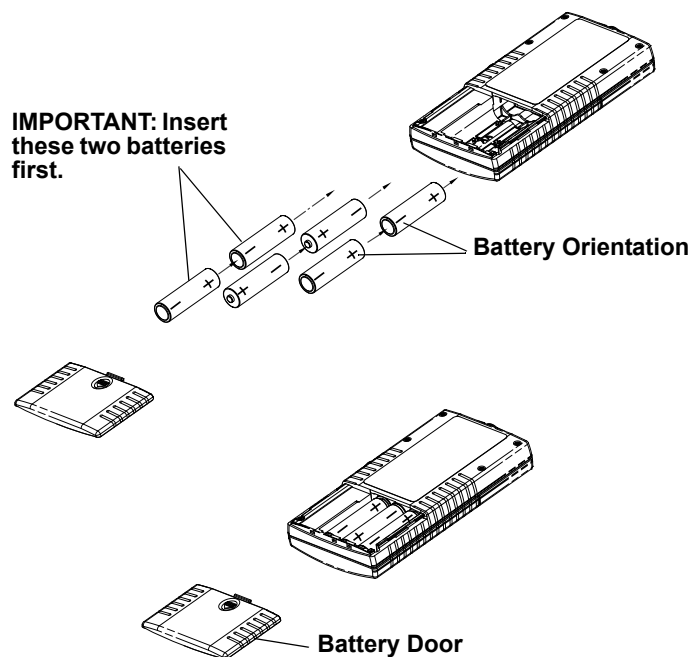
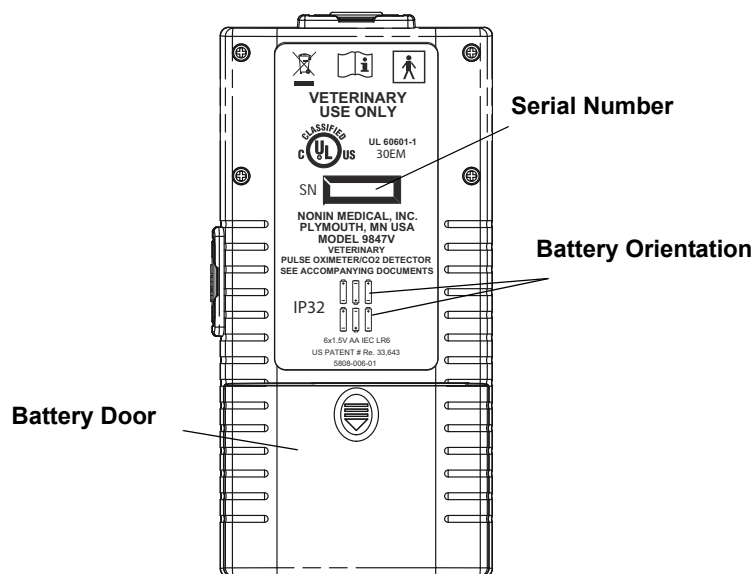

Figure 3: Replacing Batteries - Model 9847V
Figure 4: Rear View - Model 9847V
3. Replace all six batteries with new AA size batteries (figure 3) with the proper battery orientation noted on the back of the device (figure 4).